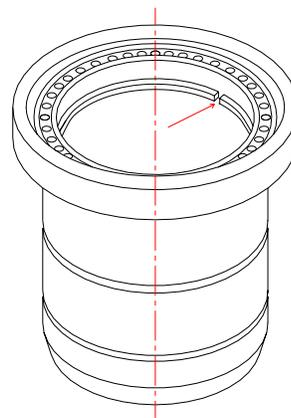

Fig. 10
- h) Each ring should be fitted to the associated liner (Fig. 10) and the joint clearance checked in accordance with Table 6. Replace rings with excessive clearance.
- h) Examine the inner surface of the liner for excessive wear, cracks or roughness. The limits for use are stated in M. P. 3, Table 6 (Fig. 10) and should the tolerances not be achieved when new piston rings are tested, replacement of the cylinder liner is required.